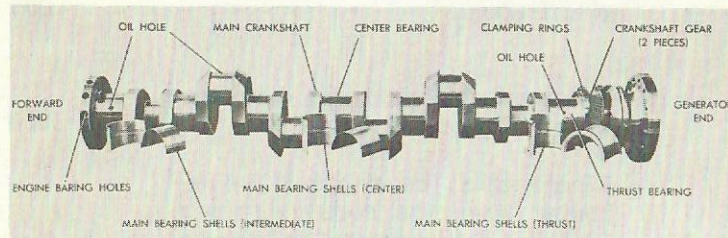

FIG. 50-1
The carbon steel, forged crankshaft has highly machined and polished surfaces of the main and crankpin journals and is drilled to provide a continuous flow of oil to the connecting rod and main bearings, Fig. 50-1.
The main bearings are steel or bronze backed shells in halves of ample thickness to prevent distortion, with a well-bonded lining. The bearings are precision made and are fitted without shims. Each bearing is made up of upper and lower shells which are held in the saddle of the main base member of the crankcase by a forged steel bearing cap. These main bearings are seven (7) in number, one of which is a lateral thrust (end) bearing (No. 7), one of which is a main center bearing (No. 4) and the other 5 are standard or intermediate, Fig. 50-1.